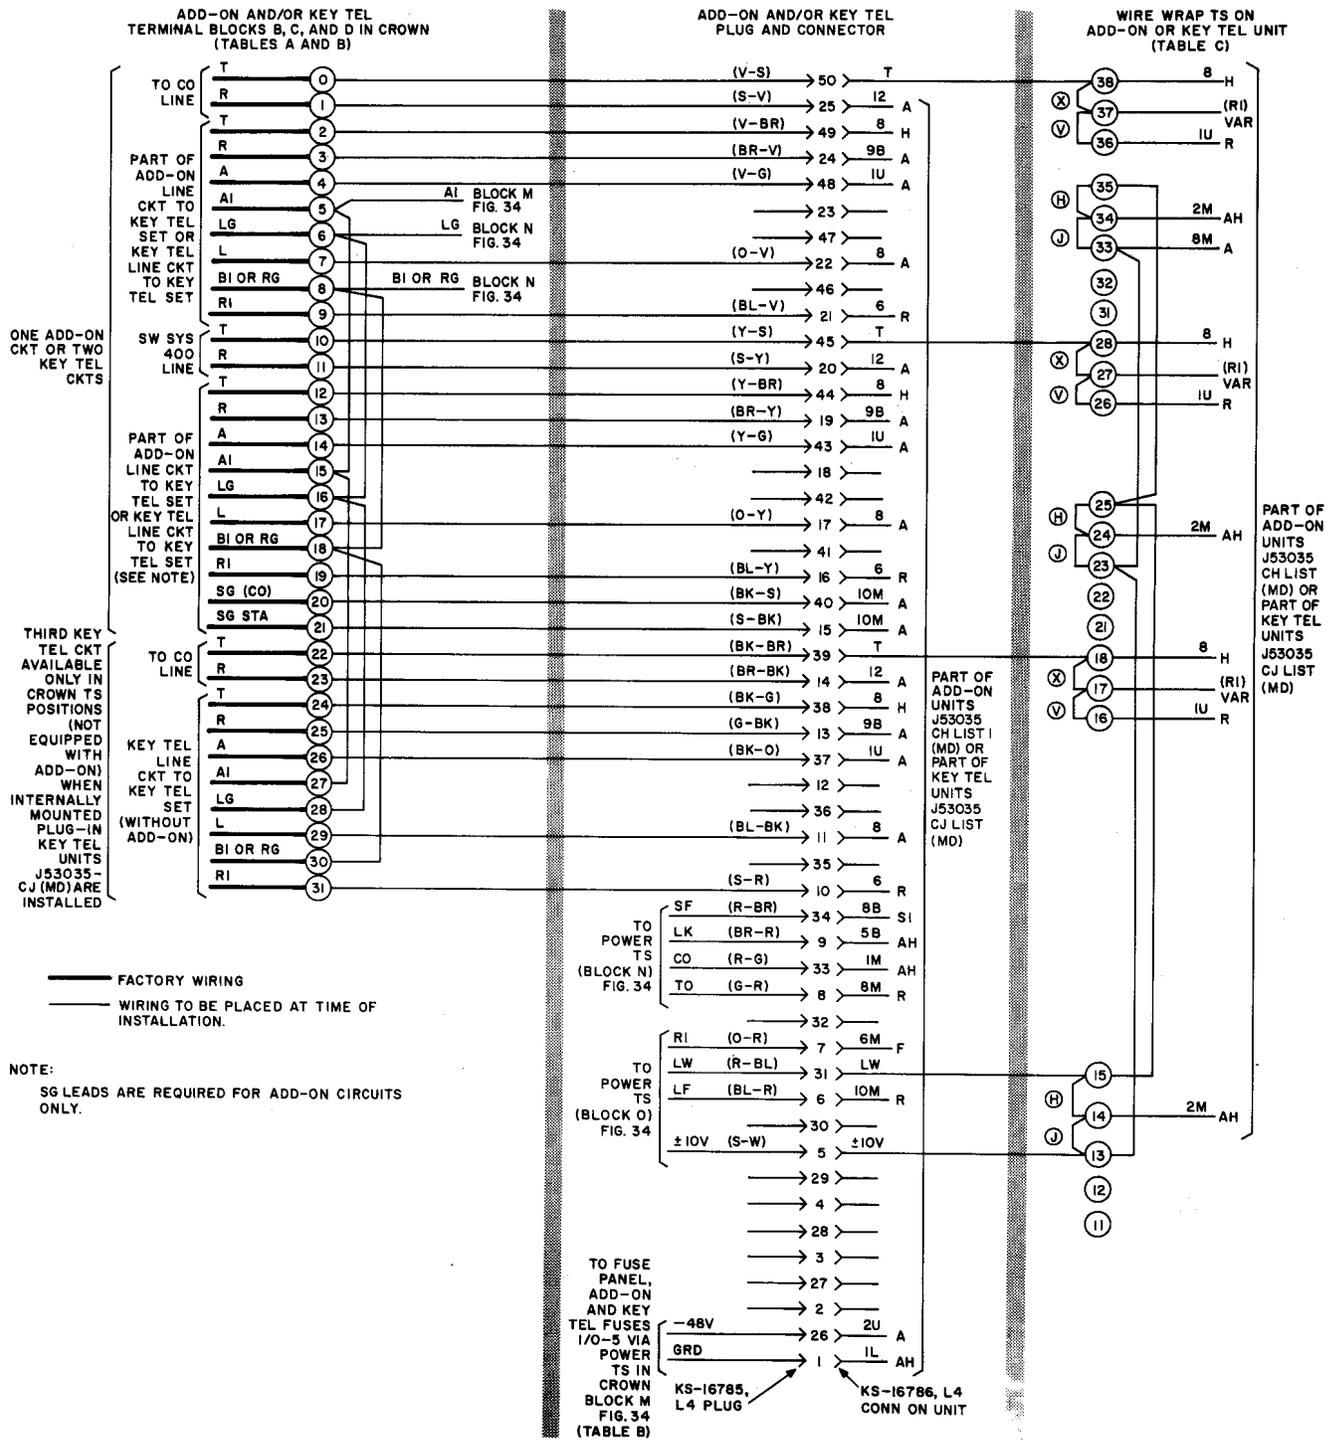

Fig. 11—Connections for Internal Add-on and Key Telephone Units
4.01 Internally mounted add-on line units (J53035CH, List 1) are plug-in types. Lists 10 and 11 (MD) cabinet assemblies are factory equipped with two add-on units wired to positions 0 and 1 in the crown (see Fig. 11 and Tables A, B, and C).
TABLE A (FOR FIG. 11)
TABLE B (FOR FIG. 11)
- (1) Block **Z** and **W** relays nonoperated with blocking tools.
- (2) Do not provide **S** (**SG**) lead to station.
- (3) If each line circuit requires a separate ringer, connect **R1** and **B1** leads as required to proper clips of crown terminal strips B, C, or D for the respective KTU involved (see Fig. 11).
TABLE C (FOR FIG. 11)
**5.03** Figure 11 shows the connections for internally mounted J53035CJ, List 1 (MD) plug-in KTUs. Necessary leads for KTUs (9-12, 6-8, 3-5, and 0-2) are terminated in a KS-connector at the respective mounting plate locations. Install 70A fuses, if not provided, in fuse positions 2-5 as required, on fuse panel designated ADD-ON & K TEL. Fuse panel located on slide 1.
**5.05** Internally mounted KTUs are furnished with X and H options shop wired (see Fig. 11).